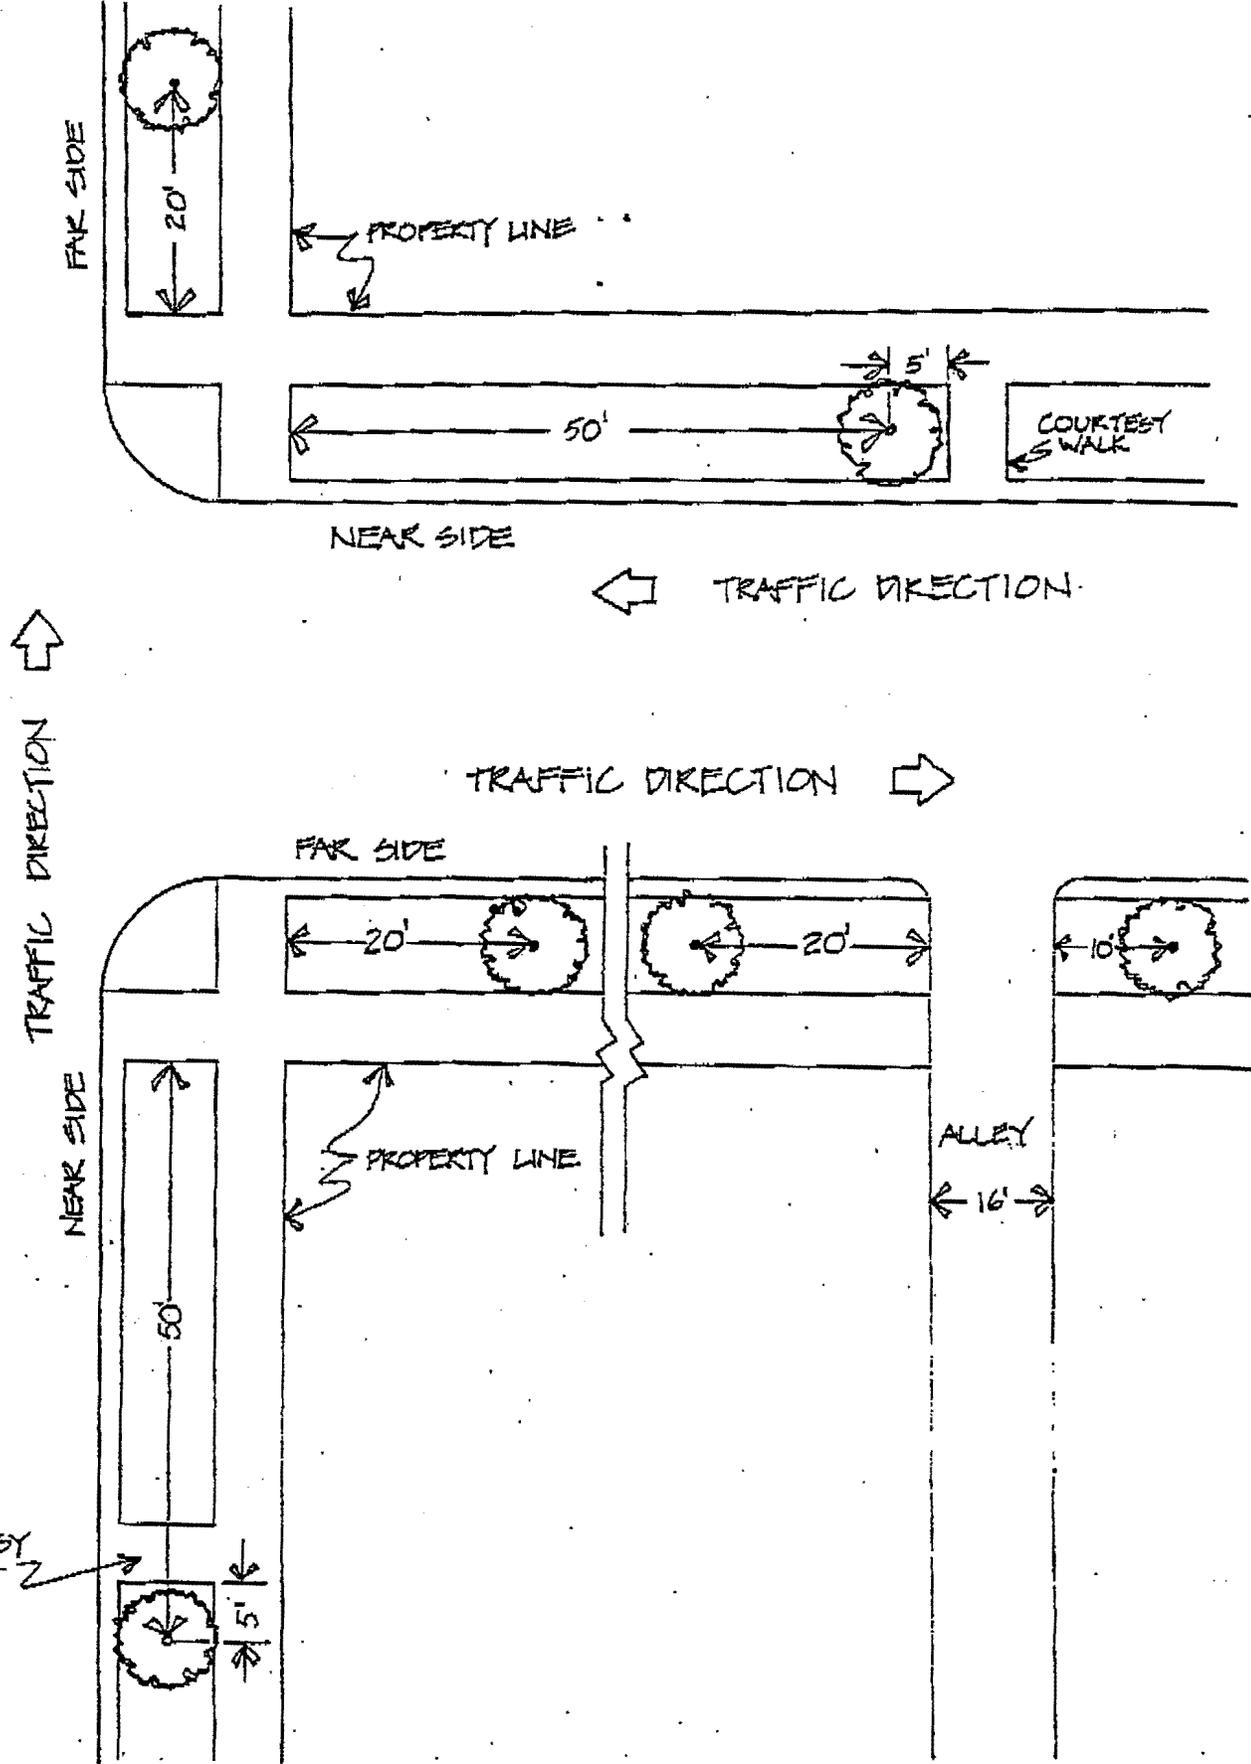

FIGURE 1: MINIMUM PLANTING DISTANCES FROM INTERSECTIONS
1. Intersections - No trees should be located within fifty (50) feet on the near side and twenty (20) feet on the far side (see Figure 1). Trees on medians should be located a minimum of fifty (50) feet from intersections.
2. Alleys - No trees should be located within twenty (20) feet on the near side and ten (10) feet on the far side.
- a) Commercial - No trees should be located within twenty (20) feet on the near side and ten (10) feet on the far side.
- b) Residential - No trees should be located within ten (10) feet.